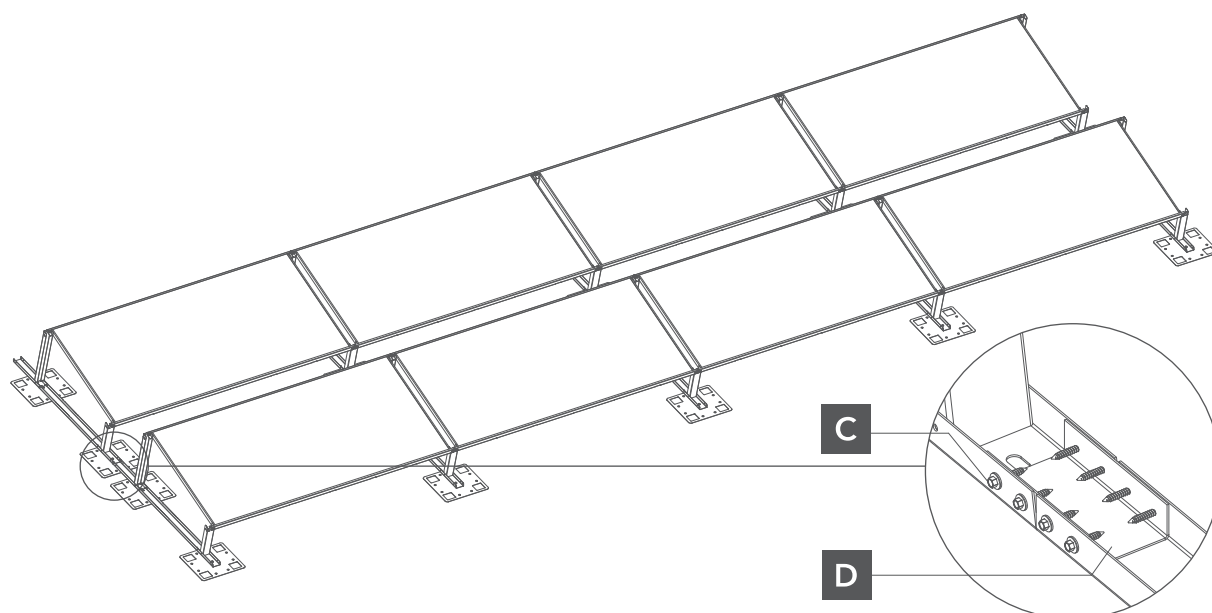

Fig. 7 Connecting the mounting triangles with a connecting piece
- 6** If two or more rows of photovoltaic modules are to be installed, the mounting triangles must be connected with a connector (Fig. 7).